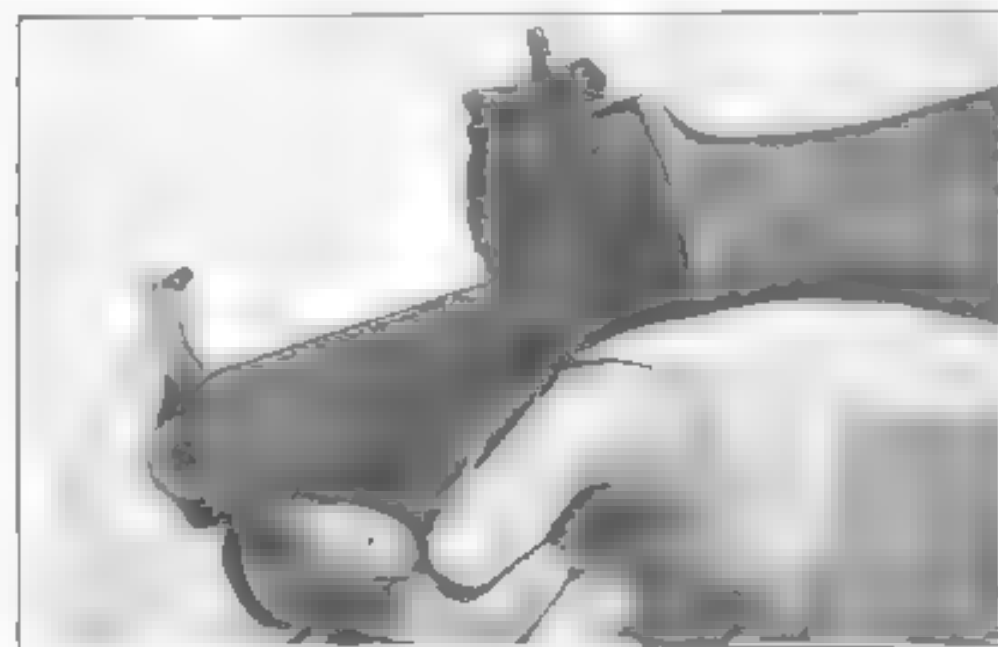

Fig. 91
b) **Hammer.** — Control the hammer with thumb and press the trigger, allowing the hammer to return gently to its forward position (fig. 91)